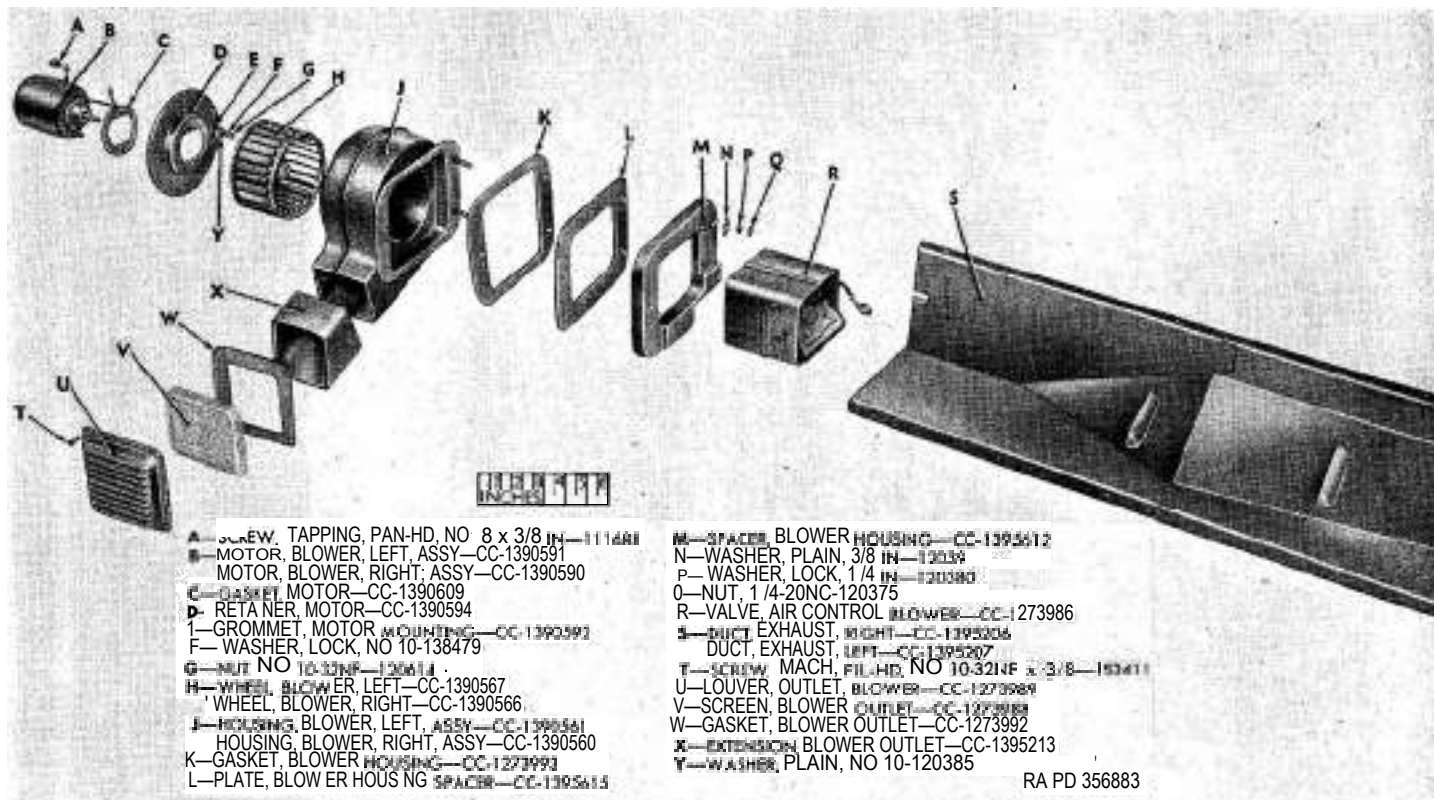

Figure 210. Ventilating blower assembly—exploded view.
a. Remove Right and Left Blower Motors and Parts From Right and Left Blower Housing Assemblies (fig. 210).
- (1) Remove plain washers (N) from studs in blower housing assembly, if so equipped.
- (2) Remove blower housing spacer (M), blower housing spacer plate (L), and blower housing gasket (K) from blower housing assembly (J).
- (3) Remove five pan-head tapping screws (A). This will release cable clip, ground wire, and left and right blower motor assembly (B) from blower housing assembly (J). Remove blower motor assembly (B) and motor retainer (D) from blower housing assembly (J).
- (4) Loosen set screw in blower wheel hub with a 5/32-inch set screw wrench. Remove blower wheel (H) from blower motor shaft.
- (5) Remove nuts (G), lock washers (F), plain washers (Y), and motor mounting grommets (E) from screws in blower motor ; then remove motor retainer (D) and motor gasket (C) from blower motor.
(fig. 210)